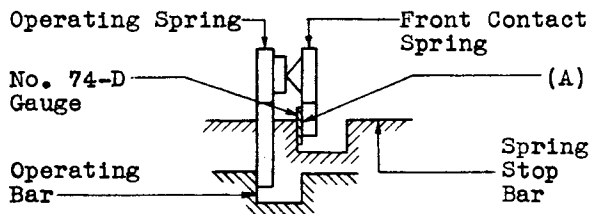

Fig. 23
(a) For Make and Transfer Spring Combinations - Figs. 23 (A) and 24 (A) - With the operating bar in the operated position, a .009" feeler gauge inserted between the tang of the front contact spring and the side of the notch in the spring stop bar nearer the cam roller, will not cause the contacts to break. Use the No. 74-D gauge.